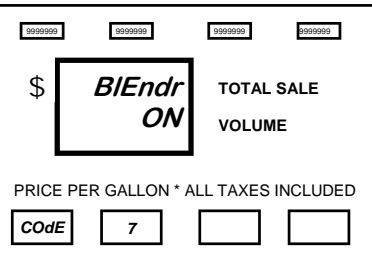

Figure 7.5
- To turn ON the Blender option, press the 1 button and the main display now appears like Figure 7.5. To change the setting back to no blender option, press the 0 button on the keypad.